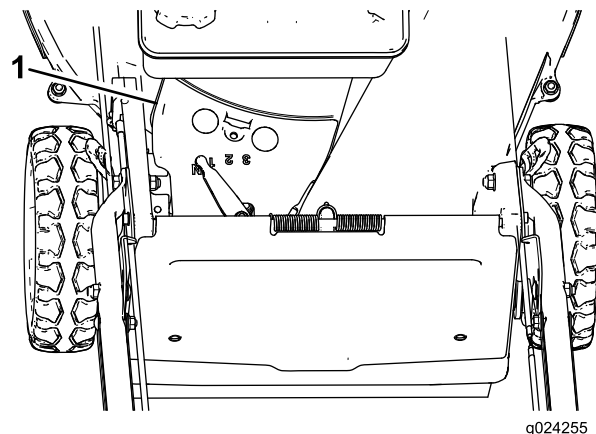

Figure 31
- Remove the belt cover (Figure 31) from the mower housing.